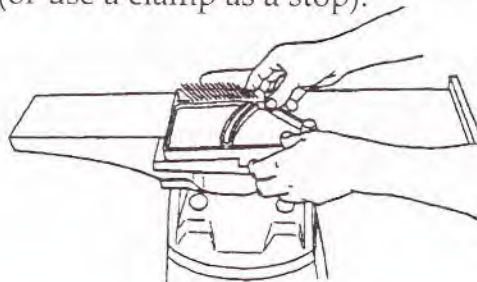

Fig. 14
23. Starting with the feather guard parallel with the jointer, as demonstrated in Fig 14., rotate the feather guard counter-clockwise 1-1/2 turns. Hold the guard by hand (or use a clamp as a stop).